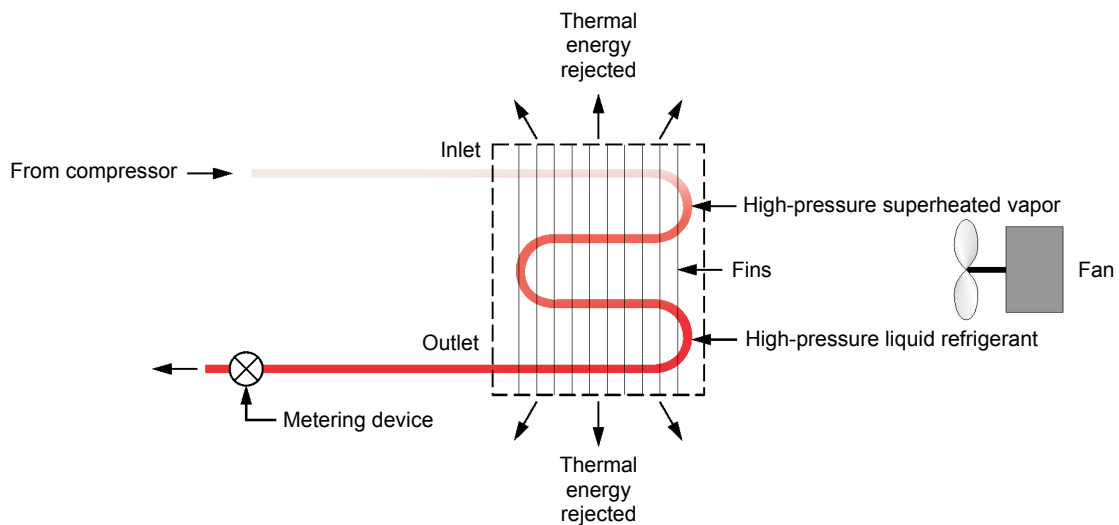

Figure 22. Removal of thermal energy through the condenser tubing.
- As Figure 22 shows, a condenser consists of copper or aluminum tubing bent in a serpentine shape through which the refrigerant is conducted.
- As Figure 22 shows, the refrigerant flows through the tubing, thermal energy from the refrigerant transfers to the coils by **forced convection** and by **conduction**.